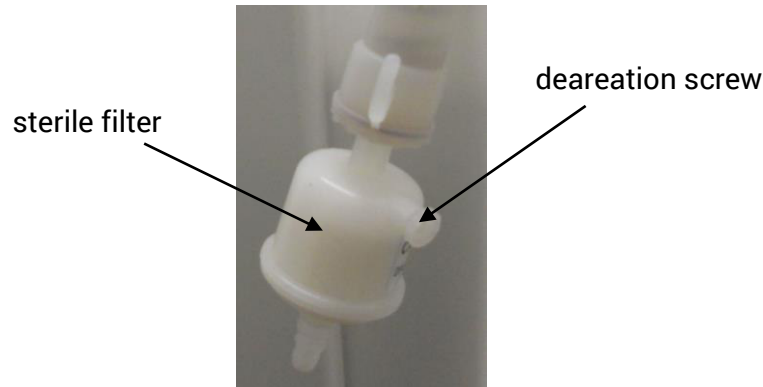

Figure 13: sterile filter
- At first water dispensing please open the deaeration screw for a short time to vent the sterile filter (see Figure 13: sterile filter).